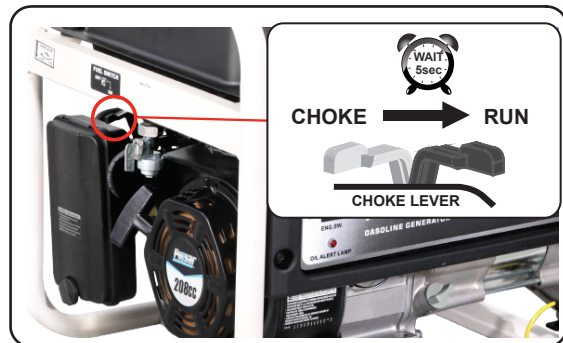

Fig 7
- Let engine run for several seconds and then gradually, as engine warms up, slide the choke lever towards the “RUN” position until the choke is fully slid to the “RUN” position. (See fig 7)